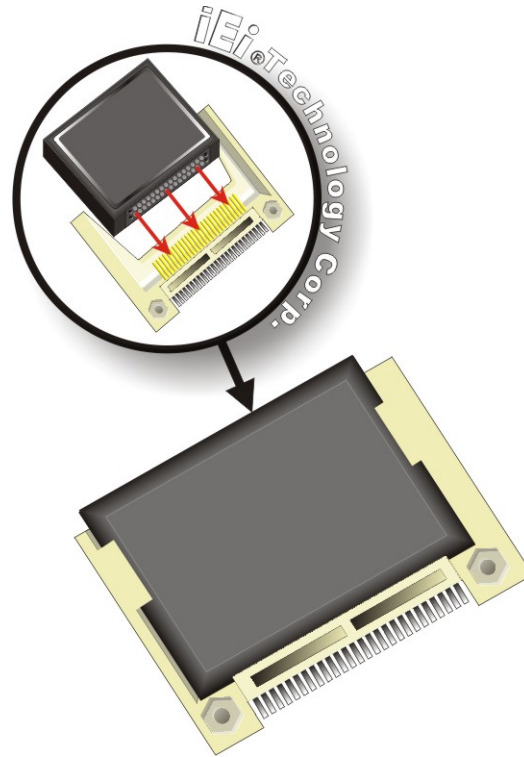

Figure 5-2: CF Card Installation
- Step 3:** **Insert the CF card.** Gently insert the CF card into the socket making sure the socket pins are properly inserted into the socket. See **Figure 5-2**.